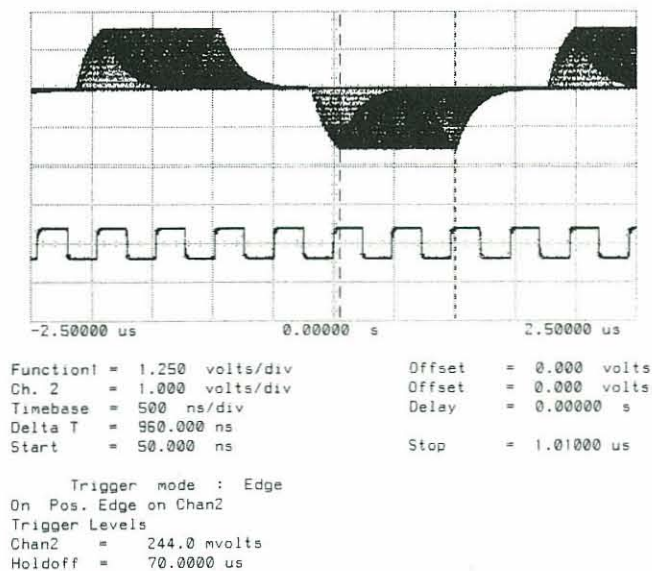

Figure 8-25 2UI p-p Jitter
30. Continue increasing the Signal Source frequency until the observed jitter falls to 2 UI p-p as in Figure 8-25. Check that the frequency is > 12 kHz ( typically this will be >40 kHz).